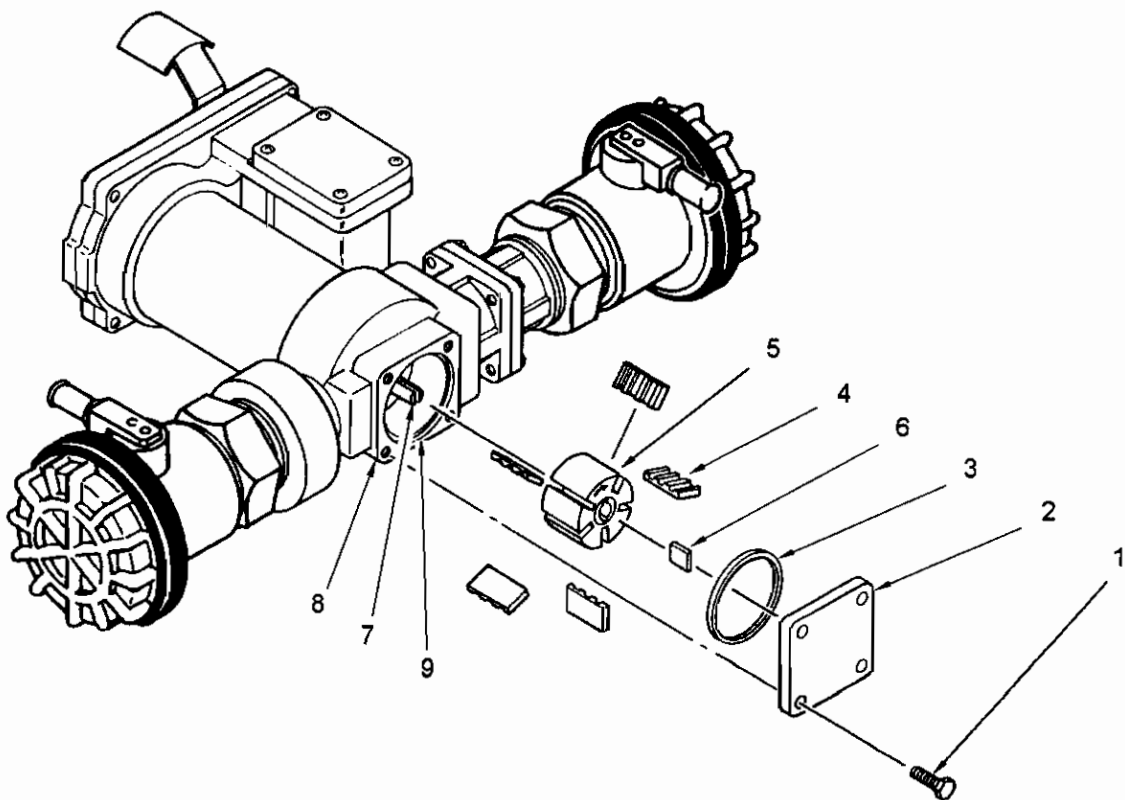

Figure 4-13. Auxiliary Pump Rotor Vane Replacement
4.8.12 REPLACE AUXILIARY PUMP ROTOR VANES. (Refer to figure 4-13.)